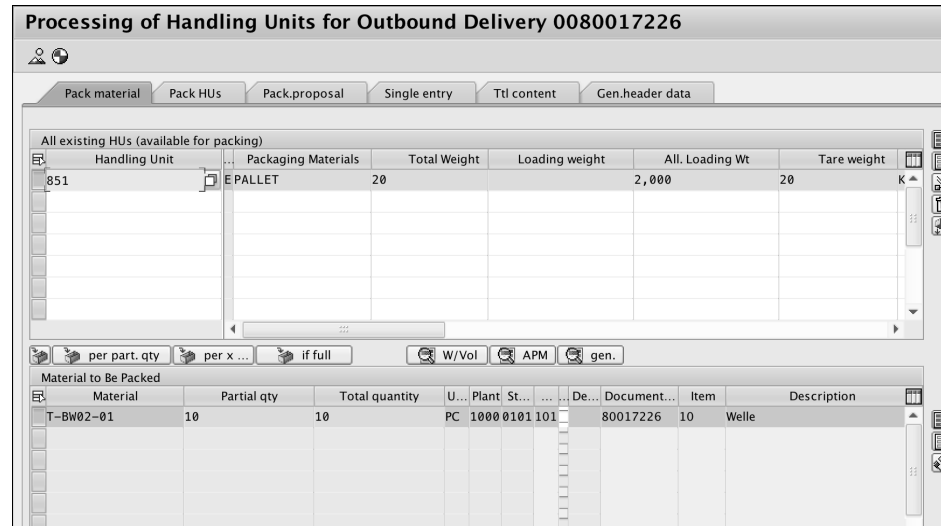

Figure 4.34 Packing Screen in a Change Delivery Transaction
1. From the item overview, click on the **Packing** button (see Figure 4.34). When you're on the packing screen, choose a packaging material, which is typically a pallet or case, depending on your company's needs.